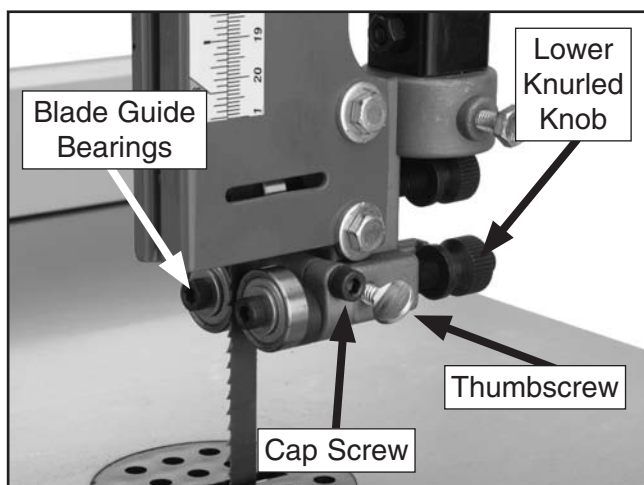

Figure 33. Blade guide controls.
3. Familiarize yourself with the blade guide controls shown in **Figure 33**.